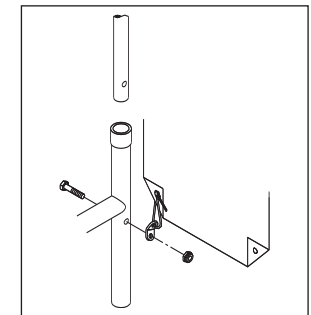

Figure 7
E. BACKREST**1. Height Adjustment (Fig. 7)**